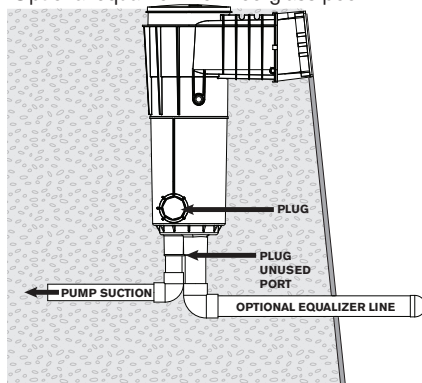

Fig. 7a
5. **Optional MAIN DRAIN LINE** – Fig. 7a or Fig. 7b. (Do not use this option if the pool has an in-floor cleaning system.) If a floor "Main Drain" is plumbed to the skimmer plumb the front bottom 2" port to a minimum of two floor "main drains" sized with an appropriate flow rating to match the maximum possible system flow based on a proper hydraulic calculation.